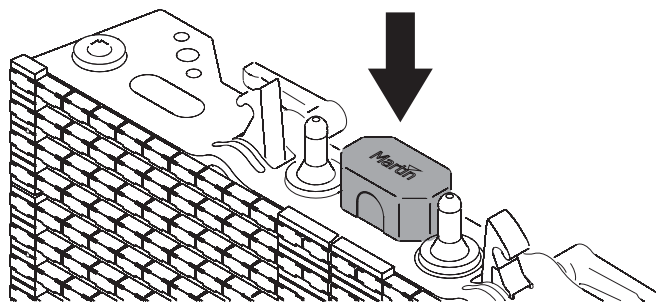

Figure 3: Connector cap
5. Remove the supplied rubber connector caps (see Figure 3) and store them safely for re-use.